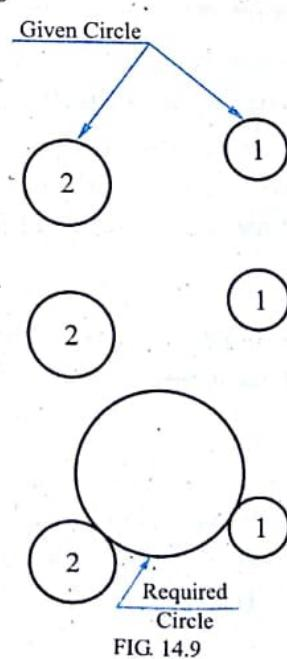

FIG 14.9
**Example :** Draw the required circle with tangent tangent radius method to two given circles. Refer figure 14.9.